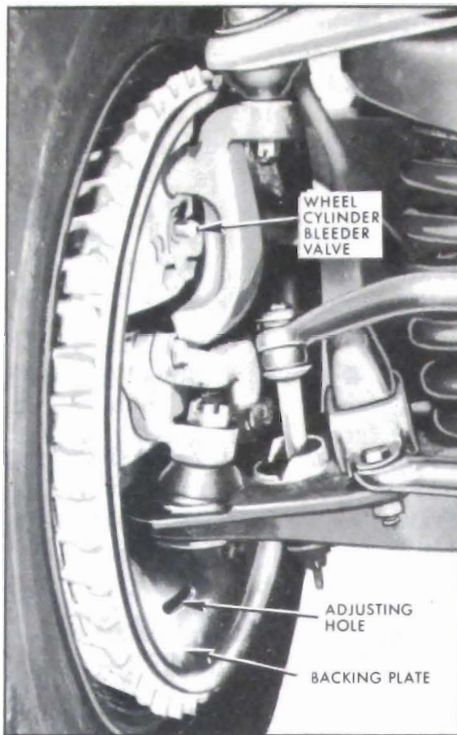

Figure 9-10—Right Wheel and Brake Assembly
2. Install Wrench J-21472 on bleeder valve. Slip a brake bleeder tube over ball of wheel cylinder bleeder valve. Place lower end of bleeder tube in a clean glass jar. Unscrew bleeder valve 3/4 of a turn. See Figure 9-10.
3. Install Wrench J-21472 on bleeder valve. Slip a brake bleeder tube over ball of wheel cylinder bleeder valve. Place lower end of bleeder tube in a clean glass jar. Unscrew bleeder valve $3/4$ of a turn. See Figure 9-10.